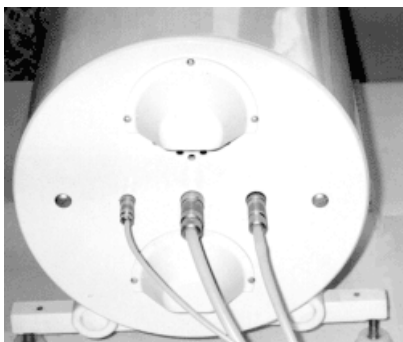

Figure 7. MTP-5 connection.
2. Connect a cables as shown in a Figures 7...10.